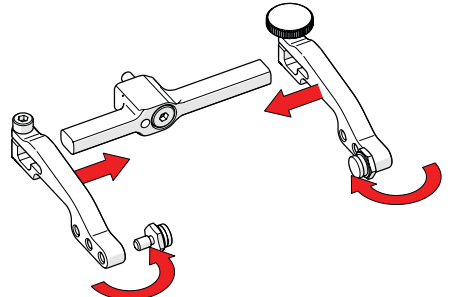

Fig. 123 - Attach arms & move buttons
5. Place the pivot buttons on the inside of the probe holder arms (Fig. 123) using a 3/8 in wrench (Fig. 2).